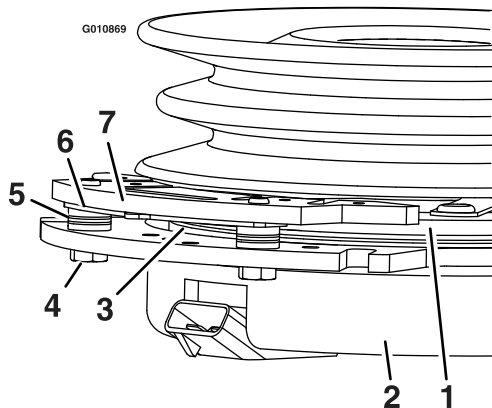

**Figure 80**
3. Remove the dust cap from caster and tighten the locknut (Figure 80).
4. Tighten the locknut until the spring washers are flat, and then back off a 1/4 turn to properly set the preload on the bearings (Figure 80).
**Important:** Make sure that the spring washers are installed correctly as shown in Figure 80.
5. Install the dust cap (Figure 80).